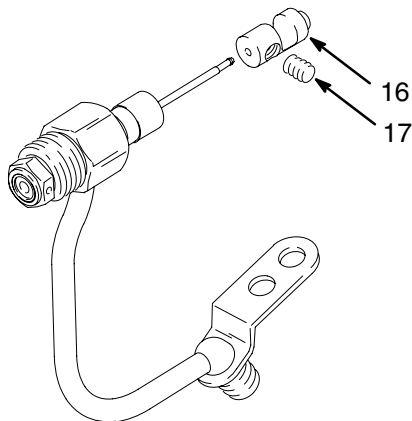

Fig. 11
7. While supporting the spring guide (16) to prevent bending the needle, loosen the setscrews (17). Remove the spring guide (16). See Fig. 11.